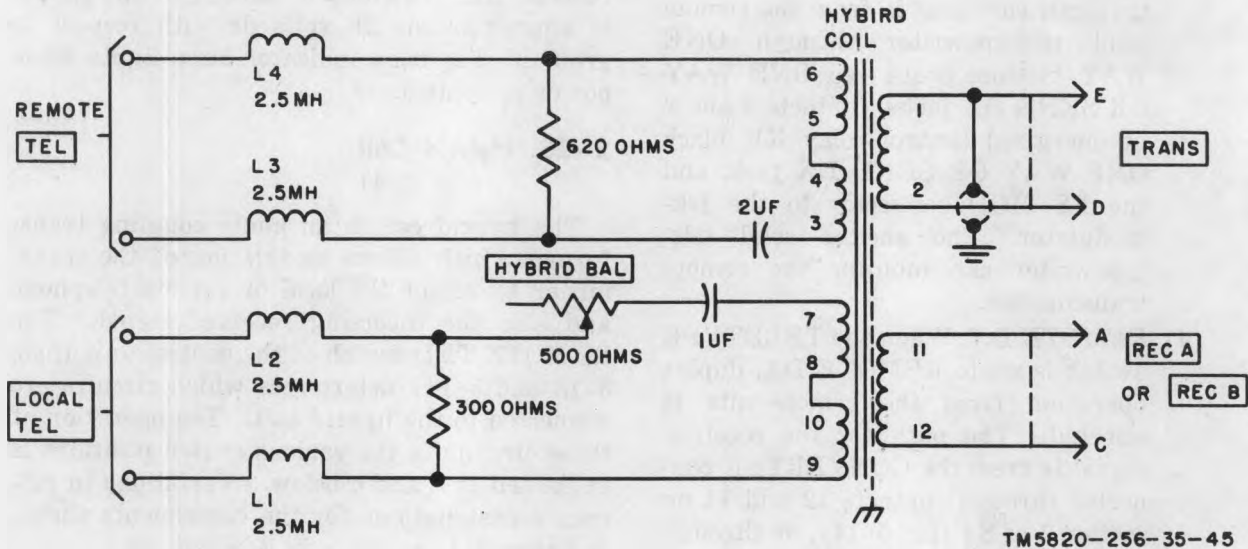

Figure 2-4. Control, Radio Set C-1123/GRC, hybrid coil, functional diagram.
(fig. 2-4)
The hybrid coil is an audio coupling transformer which allows modulation of the transmitter by either the local or remote telephone and also the incoming received signal. The REMOTE TEL switch of the control unit (figs. 5-13 and 5-14) determines which circuits are connected to the hybrid coil. The operation of these circuits in the various switch positions is explained in *a* and *c* below. Variations in reference designations for the components shown in figure 2-4 are given in *d* below.
a. When the REMOTE TEL switch is set to REC A, the components are connected as shown in figure 2-4. Terminals 1 and 2 of the hybrid coil are connected to the TRANS connector and the transmitter 600-ohm line input. Terminals 3 and 6 of the hybrid coil are connected to remote TEL binding posts. Terminals 7 and 9 of the hybrid coil are connected to LOCAL TEL binding posts. Terminals 11 and 12 of the hybrid coil are connected to the REC A connector and the audio output of receiver A. With these connections, the receiver A output can be heard at the local or the remote telephone. When the transmitter is keyed, speaking into the local or the remote telephone will modulate the transmitter. The signal from the receiver will also modulate the transmitter, and the radio set may be used as a radio relay station. To avoid retransmitting the received signal when relay operation is not desired, the receiver LINE GAIN control is set to 0. Radio relay operation is only possible in duplex operation. Resistors (300- and 620-ohm) and the HY-
c. When the REMOTE TEL switch is at REC B, terminals 11 and 12 of the hybrid coil (fig. 2-4) are disconnected from receiver A and connected through the REC B connector to receiver B. All functions discussed for receiver A now apply to receiver B (a above).
d. The chart below lists the differences in reference designations for the C-1123/GRC components shown in figure 2-4.